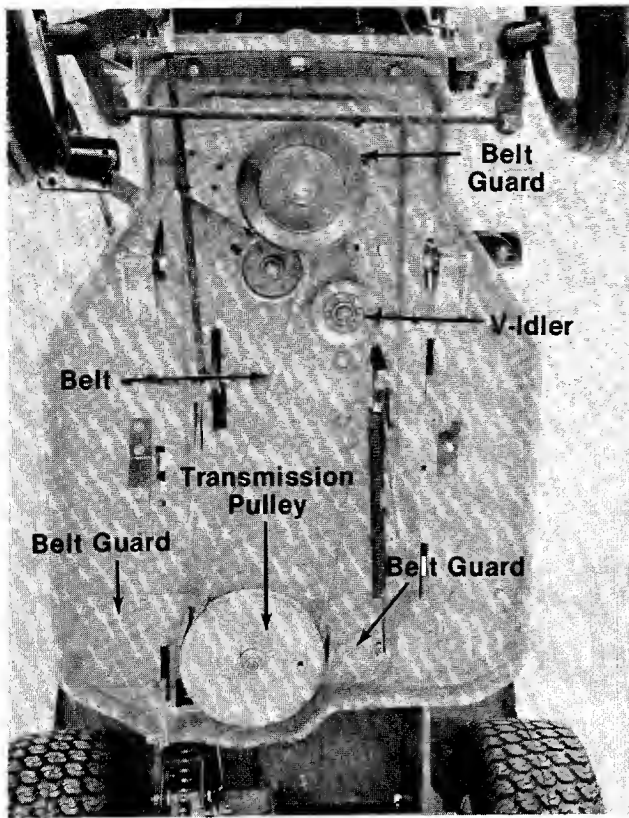

FIGURE 31.
6. Remove the six pins holding the deck to the frame. See figure 31.
TRANSMISSION BELT (See figure 31)